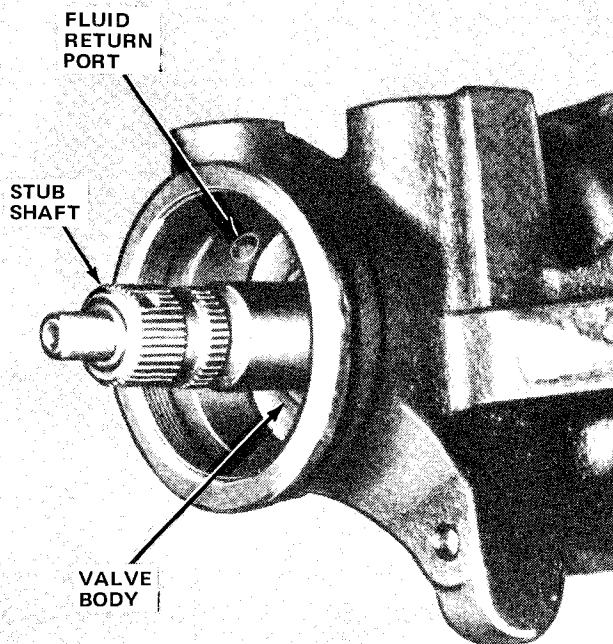

Fig. 2L-39 Seating Valve Body
(7) Place Seal Protector Tool J-6222 over end of stub shaft and install adjuster plug in housing (fig. 2L-40). Tighten adjuster plug to 20 foot-pounds torque.
(8) Remove seal protector tool from stub shaft.
(9) Install rack piston in housing. Be sure worm shaft remains engaged with stub shaft. Do not damage rack piston seal ring during installation.
(10) Align wormshaft with rack-piston and turn stub shaft clockwise to engage wormshaft in rack-piston. Maintain steady pressure on arbor tool until wormshaft is fully engaged in rack-piston.
(11) Remove arbor tool when rack piston seal ring is inside housing.
(12) Turn stub shaft until center tooth groove in rack piston is aligned with centerline of pitman shaft bore.
(13) Install side cover gasket on side cover. Be sure gasket rubber seal is seated in cover groove.
(14) Install side cover on pitman shaft.
(15) Thread side cover onto pitman shaft adjuster screw until cover bottoms against shaft.
(16) Install pitman shaft in housing. Mesh center tooth of shaft with center groove in rack piston.
(17) Align side cover on housing and install cover attaching bolts. Tighten bolts to 45 foot-pounds torque. Be sure cover gasket is properly seated before installing cover bolts.